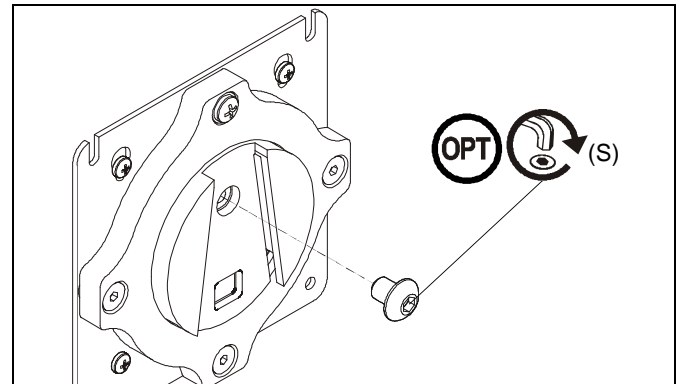

Figure 20
NOTE: (Optional) Rotational adjustment may be locked by installing rotational locking screw (S) into back of faceplate. (See Figure 20)